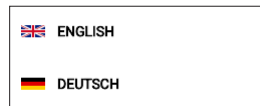

Fig. 3-5: Language selection
- ▶ Open the language selection in the navigation bar by clicking on the country flag ( / ) and click on the desired language line (see Fig. 3-5).